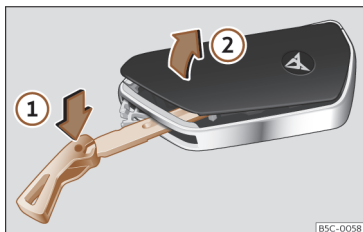

Fig. 72 Vehicle key: open the battery compartment cover.
- Insert the key blade into the slot >>> Fig. 72, press it in the direction of the arrow ① and detach the cover by levering it ②.